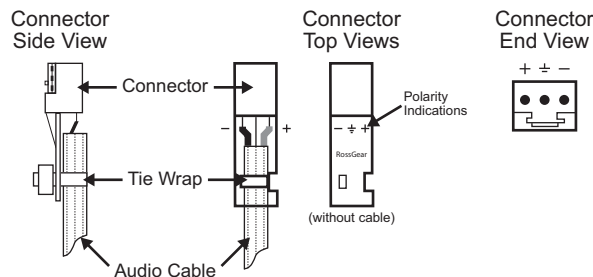

Figure 2.6 Connector Wiring for the Breakout PCB 3-pin Connectors
1. Insert a wire to the designated polarity slot on the connector of the rear panel. (**Figure 2.6**)